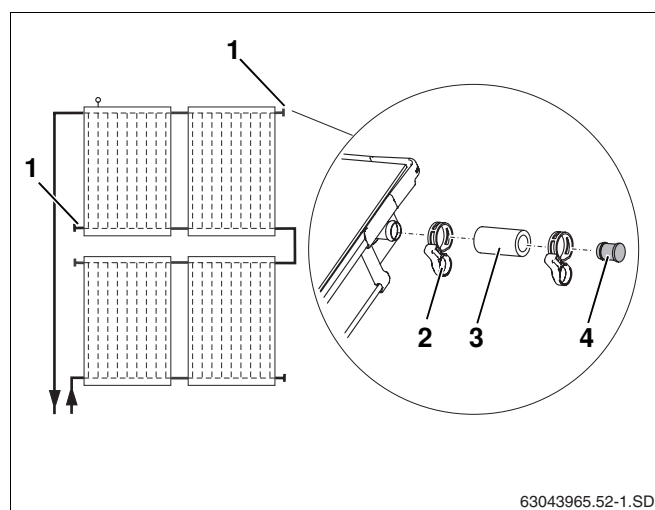

Fig. 40 Fitting the preassembled dummy plugs
Use the dummy plugs to close up any collector connections not in use (Fig. 40, **Item 1**).
- Place 55 mm solar hoses (Fig. 40, **Item 3**) together with the preassembled dummy plugs onto the two free connections.